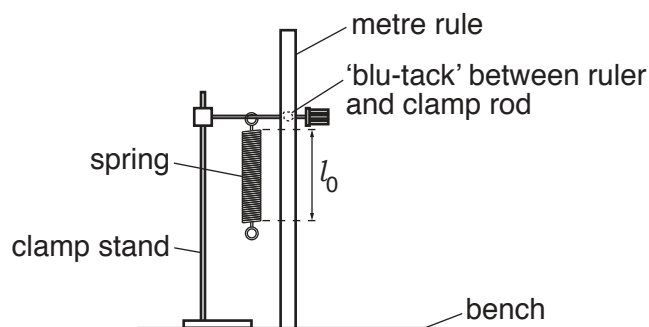

Fig. 1.1
3. The apparatus is to be set up for the candidates as shown in Fig. 1.1. The spring is to be hung from the clamp, supported by a boss and stand. The spring must be sufficiently high above the laboratory bench so that when the 1.00 N load is hung on the spring, the bottom of the load is about 10 cm above the surface of the bench. The metre rule should be securely attached to the horizontal bar of the clamp so that it rests vertically on the bench or foot of the stand. The metre rule must be close to, but not touching, the spring. The arrangement should be stable and will not topple when used for the experiment.
Check that the apparatus is set up ready for the next candidate, as shown in Fig. 1.1. Replace the spring if it has been overstretched. Ensure the ruler is attached securely to the stand.